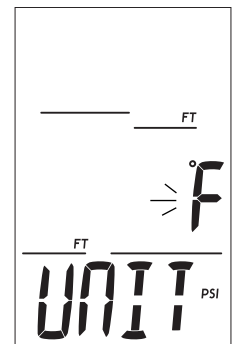

Fig. 29 - Set UNITS
**Set Units**, information includes (Fig. 29):